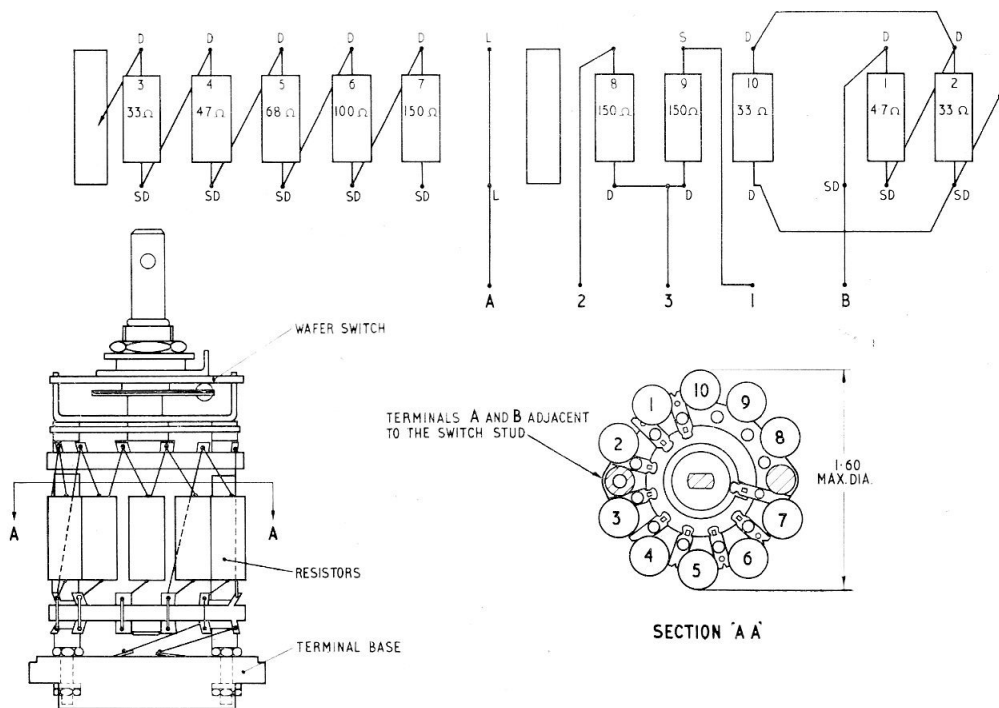

Fig. 3. Internal assembly of switch
7. Referring to figure 3, the resistors, ten in number, are equally spaced radially around a centre spindle which, when rotated by the control knob, connects with the contacts located between each resistor.
8. The internal electrical connections as shown in figure 3 are as follows:—